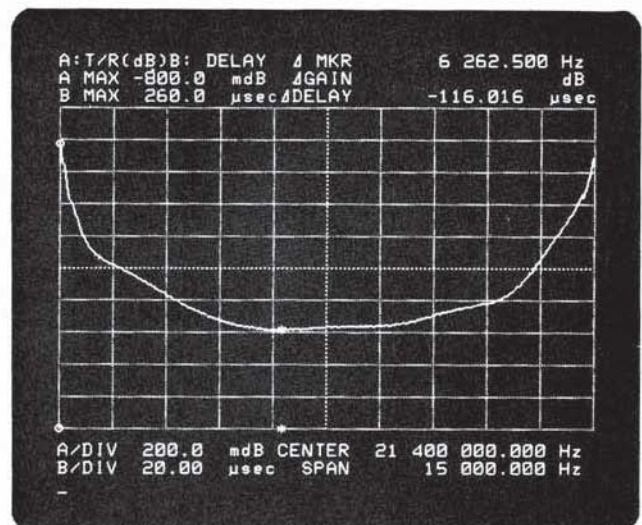

Figure 27. Group Delay Deviation Measurement
3. Press the return and REF-MKR softkeys to display the group delay deviation value. (See Figure 27.)